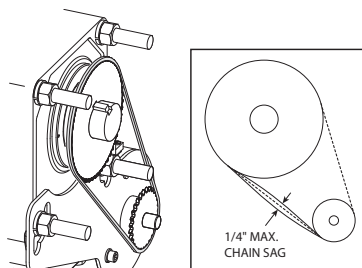

Fig 9-B
- Check chain tension, max sag is 1/2", **Fig. 9-B.**